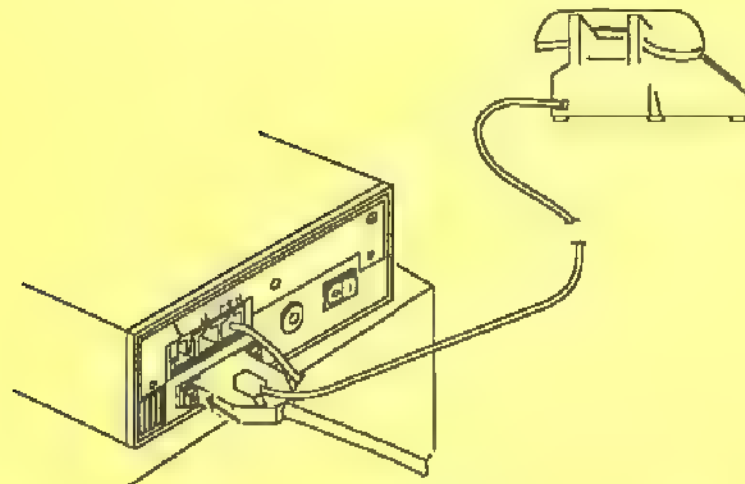

Figure 4-5. Plugging a Handset into the Rear of a Modem with Three Sockets
**Step 23** If you are using the modem for public switched network operation and your modem has three rear panel modular jacks, you can connect a telephone to the 6-pin jack located on the modem's rear panel as shown in Figure 4-5. If not, go to step 25.